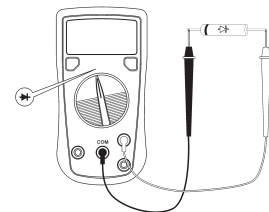

figure 5
E. Diodes Measurement (see figure 5)